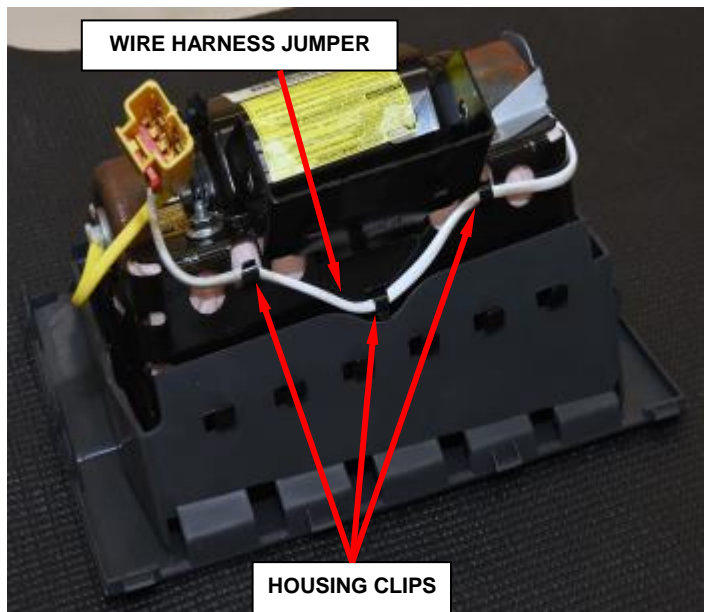

Figure 6 – Wire Harness Jumper
c. Disengage the wire harness jumper from the housing clips in three places (Figure 6).
- r. Engage the wire harness jumper under the housing clips in three places (Figure 6).